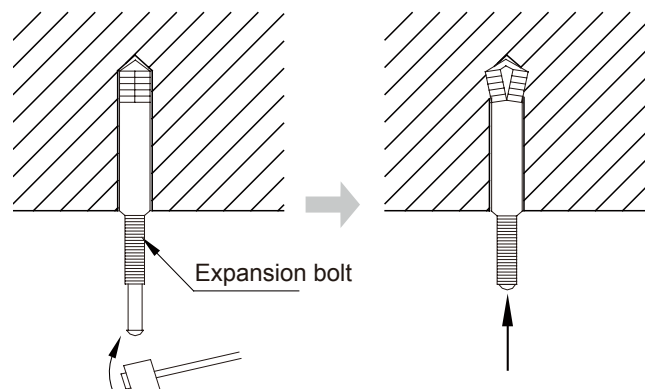

Fig 4.1.4
- 2) Insert the M10 expansion bolt into the hole and then knock the nail into the bolt, as shown in fig 4.1.4.